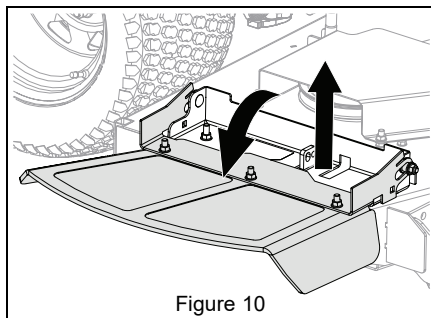

Figure 10
17. Lift discharge chute up slightly and rotate down into operating position. See Figure 10.